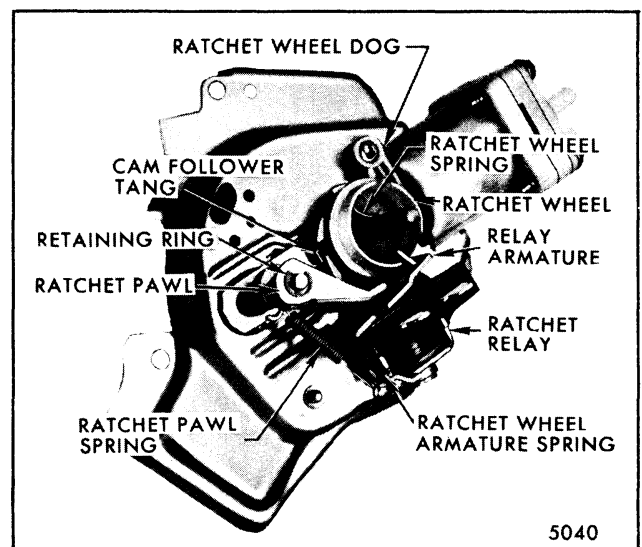

Fig. 2-85-Pump Assembly
4. Remove ratchet relay armature spring, ratchet pawl spring and remove ratchet relay armature (Fig. 2-85).